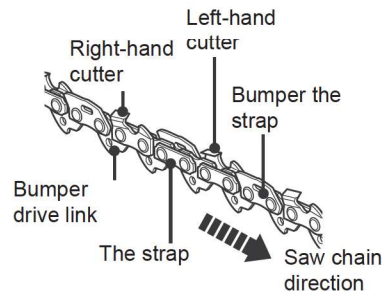

Fig. 50
- > The height difference between the tooth and the ridge is the cutting depth. When sharpening the saw chain (3) you have to consider the following points (Fig. 50).